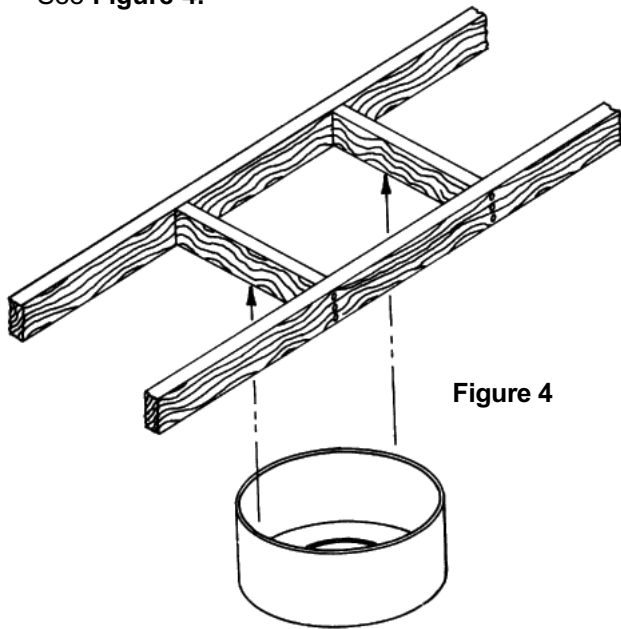

Figure 4
1. Completely frame in (on all four sides) a properly sized square opening. Select opening size so that outside wall of AmeriVent Bucket (AB), 3-inch through 8-inch, will contact framing at four sides. See **Figure 4**.